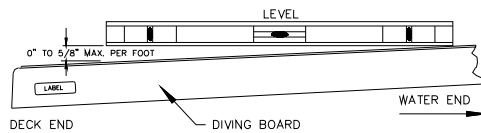

FIG.4
9. The top surface of the diving board from the deck end to the tip end shall be level or have an upward slope of 5/8" per foot (16 mm: 305mm) maximum. Elevation difference shall not exceed 6 inches (152mm) from the deck end to the tip of the board. There shall be no downward slope towards the water. The slope shall be measured using a level as shown in Fig. 4.